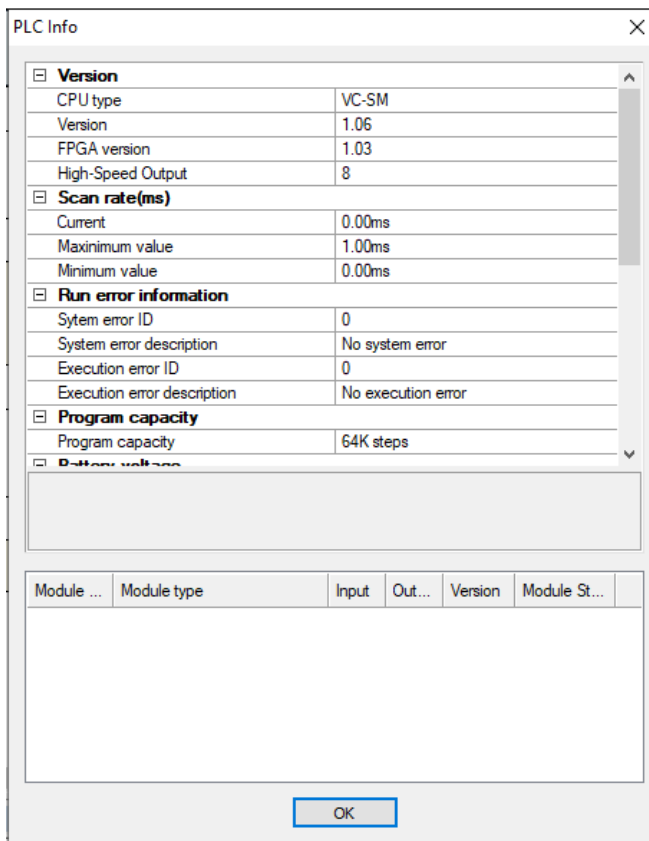

Figure 2-1 PLC current running information
The PLC information function acquires and displays various operating data and important PLC information from the PLC. On the information display window, you can see important information about the current operation of the PLC, such as Figure 2-1 shown.
- ② When you need to execute the write or force function, first select the component to be written or forced, and select **Write** or **Force** from the right-click menu. At this time, a corresponding dialog box will pop up, listing all the device addresses referenced by the selected component. Some soft component values can be selectively written or forced. After confirmation, these values will be sent to the PLC hardware. When these values take effect in the hardware, the change results can be seen in the subsequent debugging process. Write dialog see Figure 2-1: